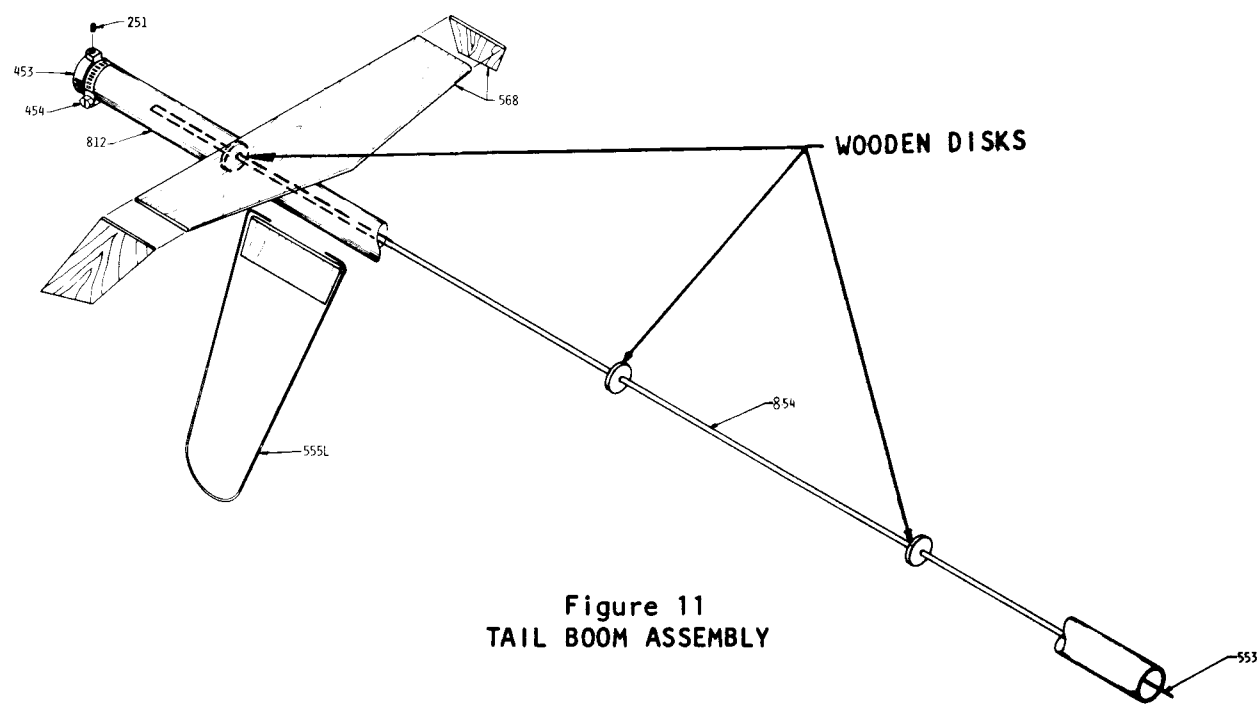

Figure 11
STEP 14 TAIL BOOM ASSEMBLY - see Figure 11